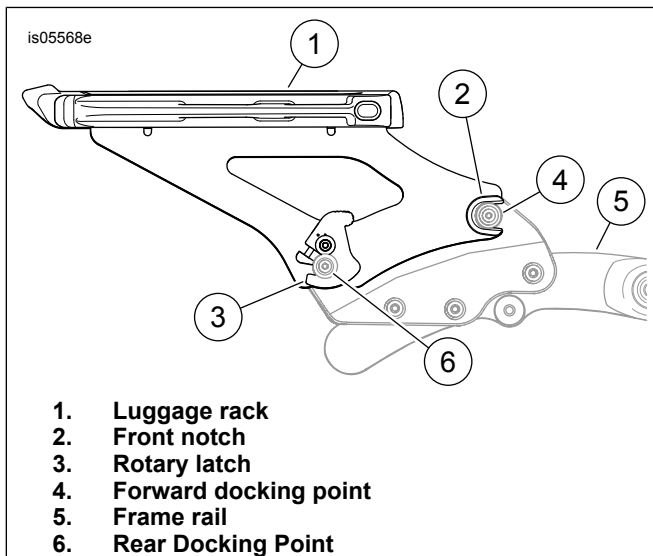
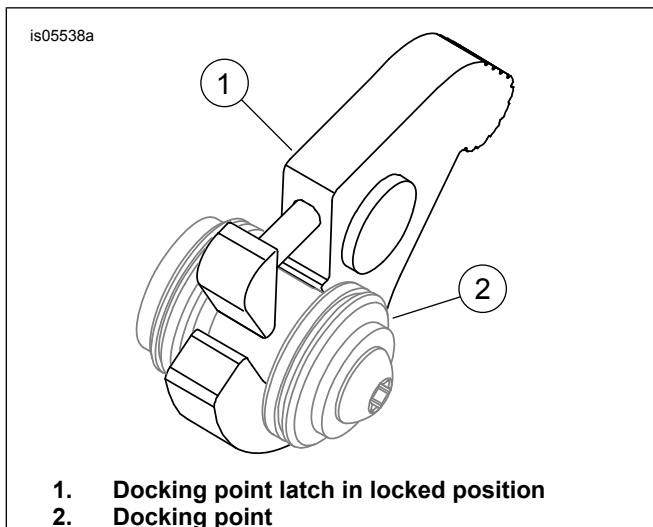

Figure 2. Luggage Rack
Figure 3. Latch and Docking Point
2. See Figure 2. While standing behind the motorcycle, place the rack side plate front notches (2) into the forward docking points (4). Make sure the notches seat fully into the mounts.
3. Position the rotary latches (3) over the rear docking points (6). Check to be sure the rotary latches fit into the neck of the rear docking points as shown in Figure 3. This may require some gentle squeezing or spreading of the side plates.
The docking points must be fully engaged. See Figure 2 and Figure 3 for correct engagement. If docking points are not fully engaged the rack could shift position or come loose during operation.